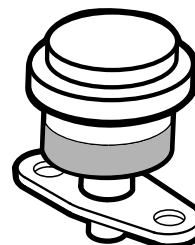

Figure 41
Service the primary air-cleaner filter only when the service indicator (Figure 41) requires it. Changing the air filter before it is necessary only increases the chance of dirt entering the engine when the filter is removed.
1. Check the filter blockage indicator. If the indicator is red, the air filter needs to be replaced (Figure 41).